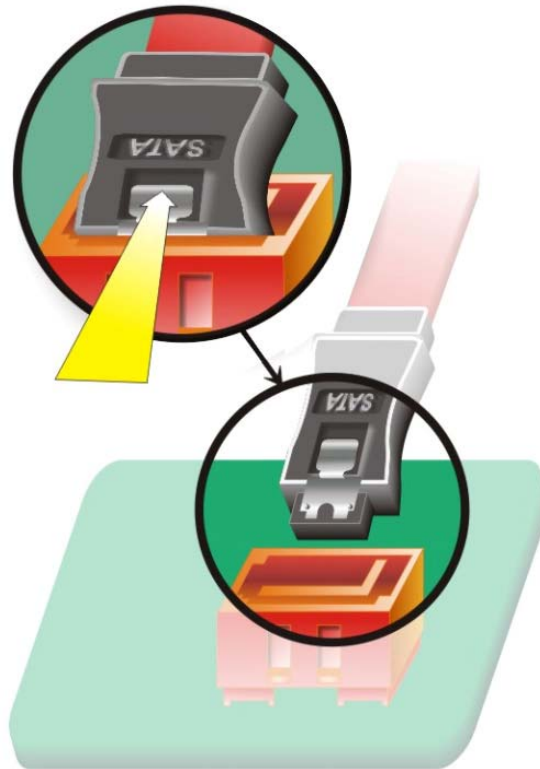

Figure 5-13: SATA Drive Cable Connection
- Step 2: Insert the cable connector.** Press the clip on the connector at the end of the SATA cable and insert the cable connector into the on-board SATA drive connector. See **Figure 5-13**.